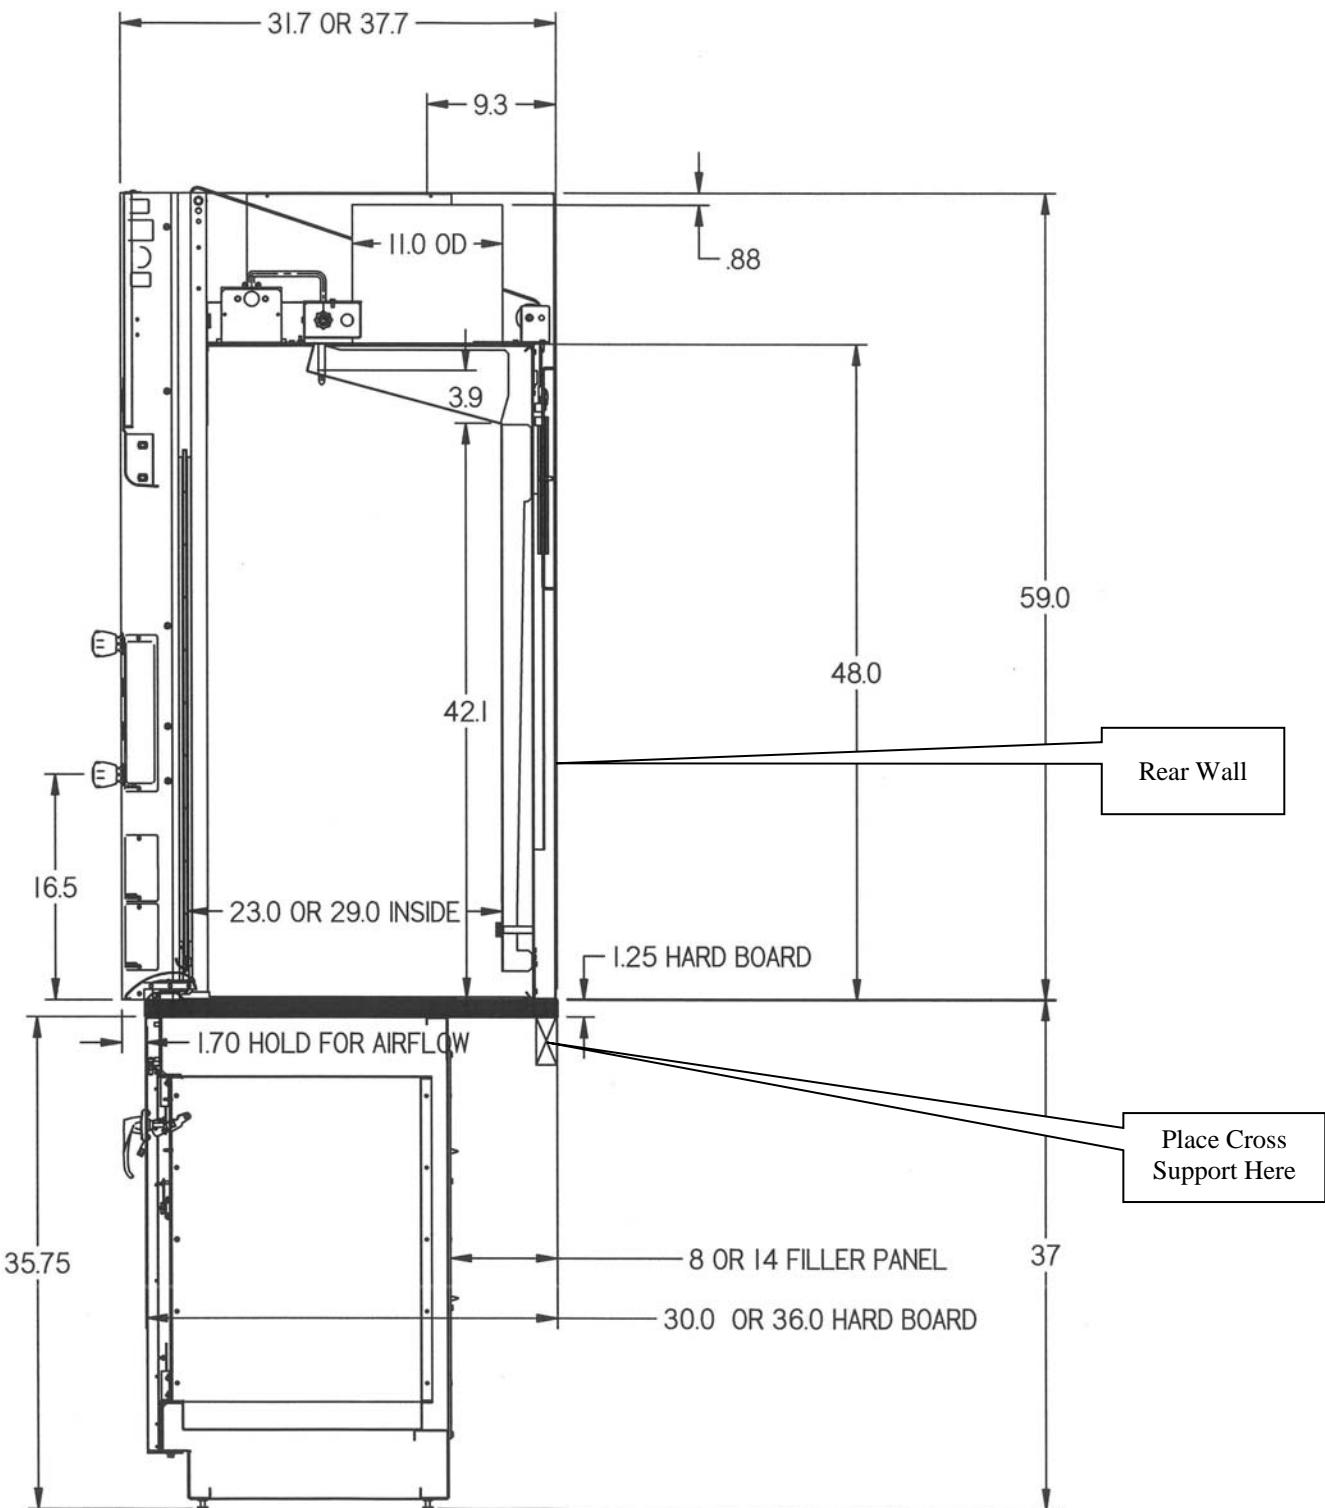

Figure 3-2
When installing the Protector Radioisotope Hood onto the lower hardboard work top, ensure that the structure can safely support the combined weight of the fume hood and any related equipment. **The hardboard work top is aligned flush with the back of the fume hood for good airflow: this will provide the correct spacing under the air foil for proper bypass airflow. The lower base cabinets are placed flush with the front of the hardboard work top as shown in Figure 3-2. The hardboard work top supports the Radioisotope Hood.**
5. Secure the hardboard surface to the top of the base cabinet(s) using adhesives with the Storage Cabinet(s). Be sure the Radioisotope Hood drain trough is accounted for in the relief area of the hardboard top. See figure 3-2.